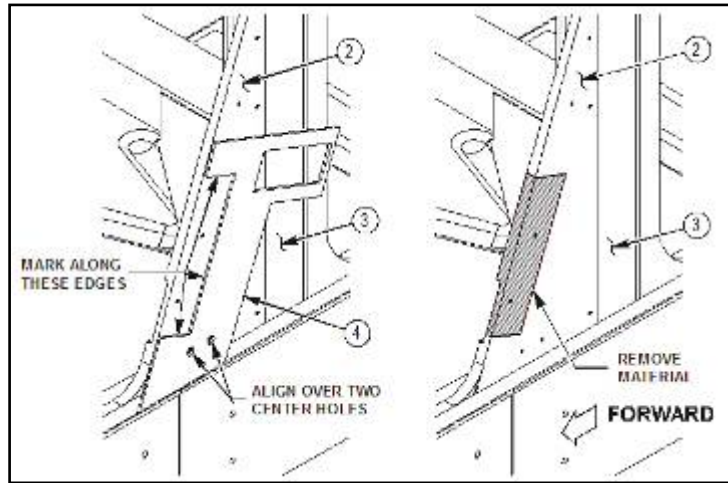

Figure 7b.
1. Install M00629BAS001-01M1 sail plate/B-post cutout template (4) on B-pillar sail panel (2) as shown in figure 7b, and mark area to be removed. Remove template (4).
2. Clamp top of B-pillar sail panel (2) to vehicle B-pillar (3) to prevent B-pillar sail panel (2) from vibrating loose during material removal. Refer to figure 7b.
3. Remove material from B-pillar sail panel (2) as shown in figure 7b.